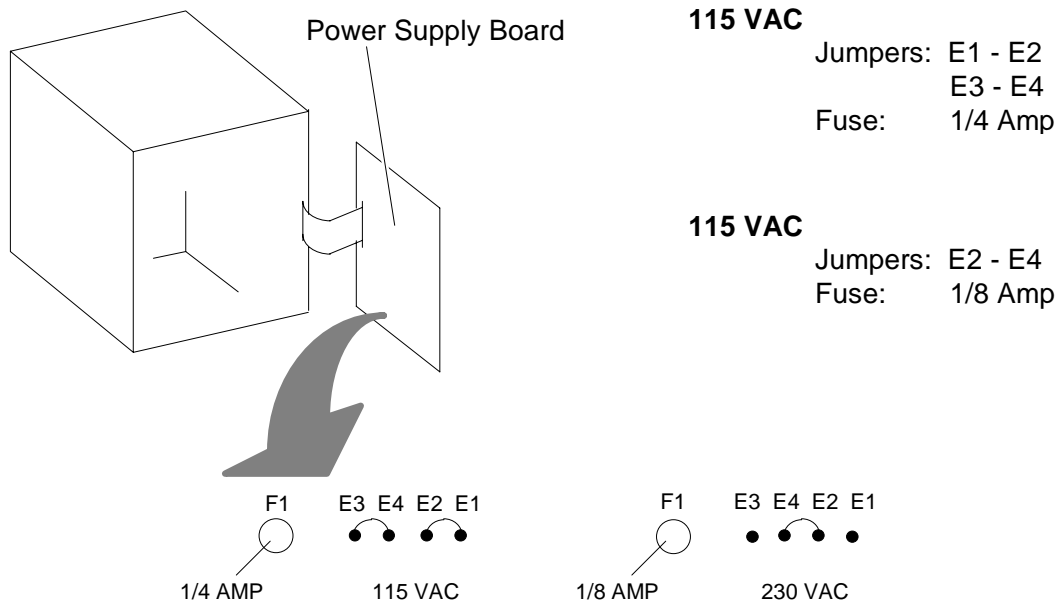

FIGURE 2-3. POWER JUMPERS AND FUSES
To verify the jumper location for the specified power (115 or 230 VAC) or if the analyzer is to be connected to a different power source, refer to Figure 2-3 and set jumpers and fuse as follows:
3. Verify and/or set Jumpers E1, E2, E3, and E4 per Figure 2-3.